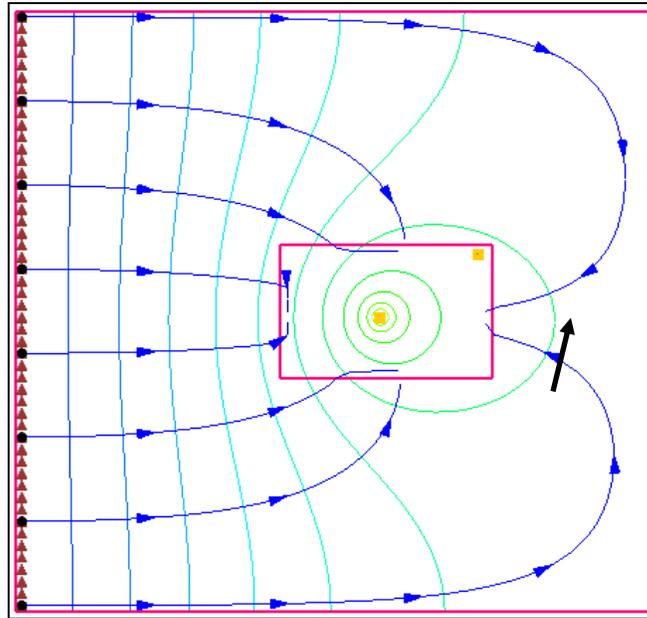

Figure 7 Creating a second well (indicated by arrow) in CHIL1
- Using the **Select Cells**  tool, right-click somewhere in the upper right area of CHILD1 (the exact location is not important, see Figure 7 for approximate location) and select **Sources/Sinks...** to open the *MODFLOW Sources/Sinks – CHILD1* dialog.